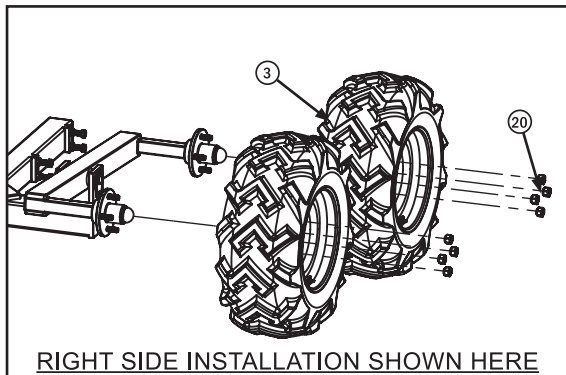
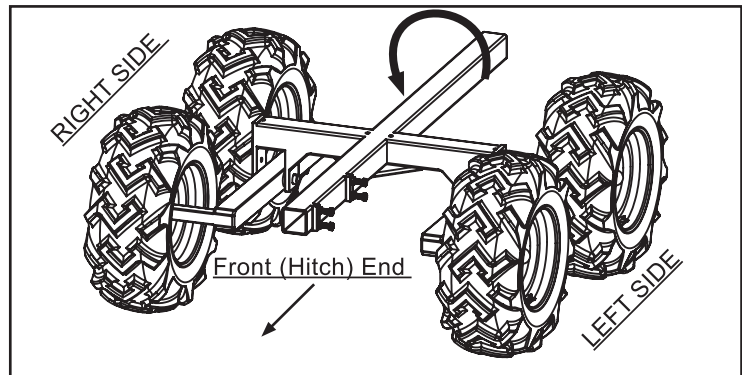

Fig. 6
Fig. 7
Step 7: Install the wheels. Note that the wheels are labeled with an “R” for installation on the right side, and “L” for the left. The two sides are shown in Fig. 7 (Note that the front (hitch) end is now shown pointing to the left of the image). With one side of the frame held up, install a wheel onto each bearing hub. Place four M12 Lug Nuts with the tapered end towards the wheel onto each wheel stud and tighten by hand (Fig. 6). Repeat for the other side.
Step 8: Turn the main frame over. With the help of a second person, turn the Main Frame with Wheels over (Fig. 7). Use caution when lifting to ensure hands are not caught at the pinch points between the Axle Assembly and the Main Frame. Once all 4 wheels are on the ground, chock the tires to prevent them from moving and tighten all lug nuts to 80 ft-lbs. (109 N-m) each.